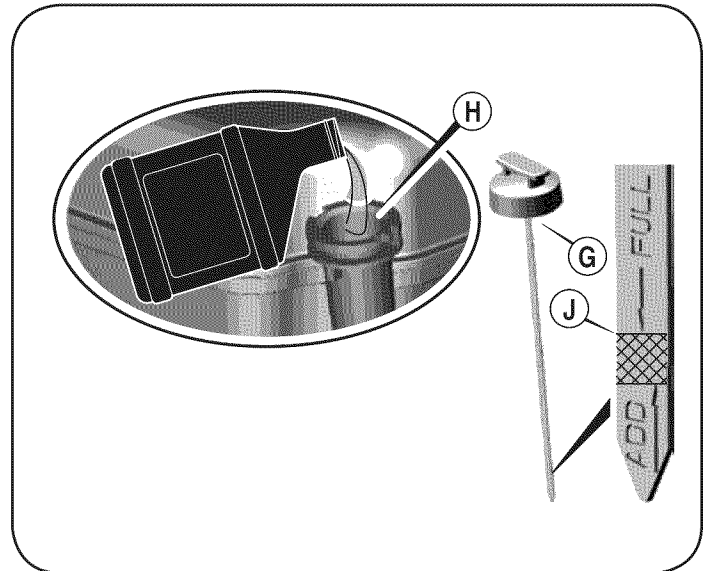

Figure 8
1. Remove oil fill dipstick (G). See Figure 8.
2. With the mower on level ground, empty entire contents of oil bottle provided into the engine oil fill (H).
3. Insert and tighten the oil fill dipstick. Remove it to check the oil level. See Figure 8.
4. If the oil level is near or below the lower limit mark on the dipstick, remove the oil fill dipstick, and fill with the recommended oil to the upper limit mark (J). Do not overfill.